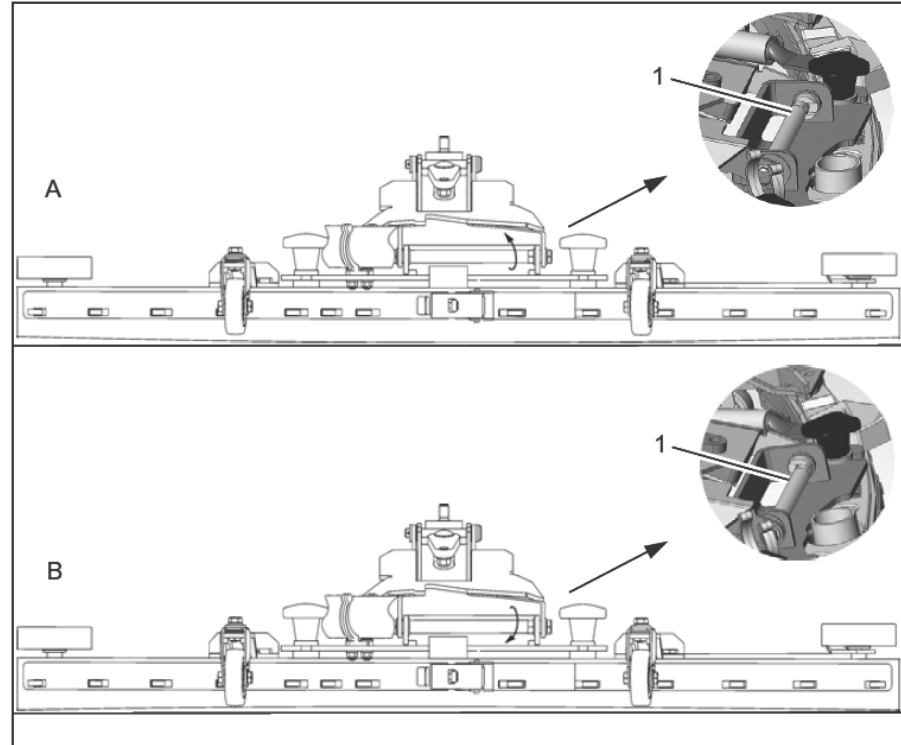

Fig. 12
2. Loosen the counternut on the adjusting screw (Fig. 12/1) and adjust the squeegee using the adjusting screw so that the ends of the squeegee blades have contact with the floor.